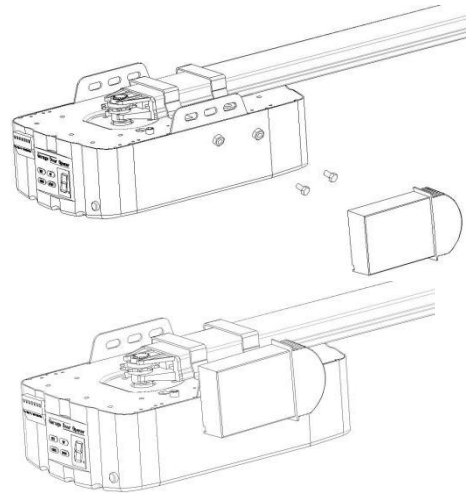

Figure 14
STEP2 (Fig.14)
Join the battery to opener, find the Fig.14.